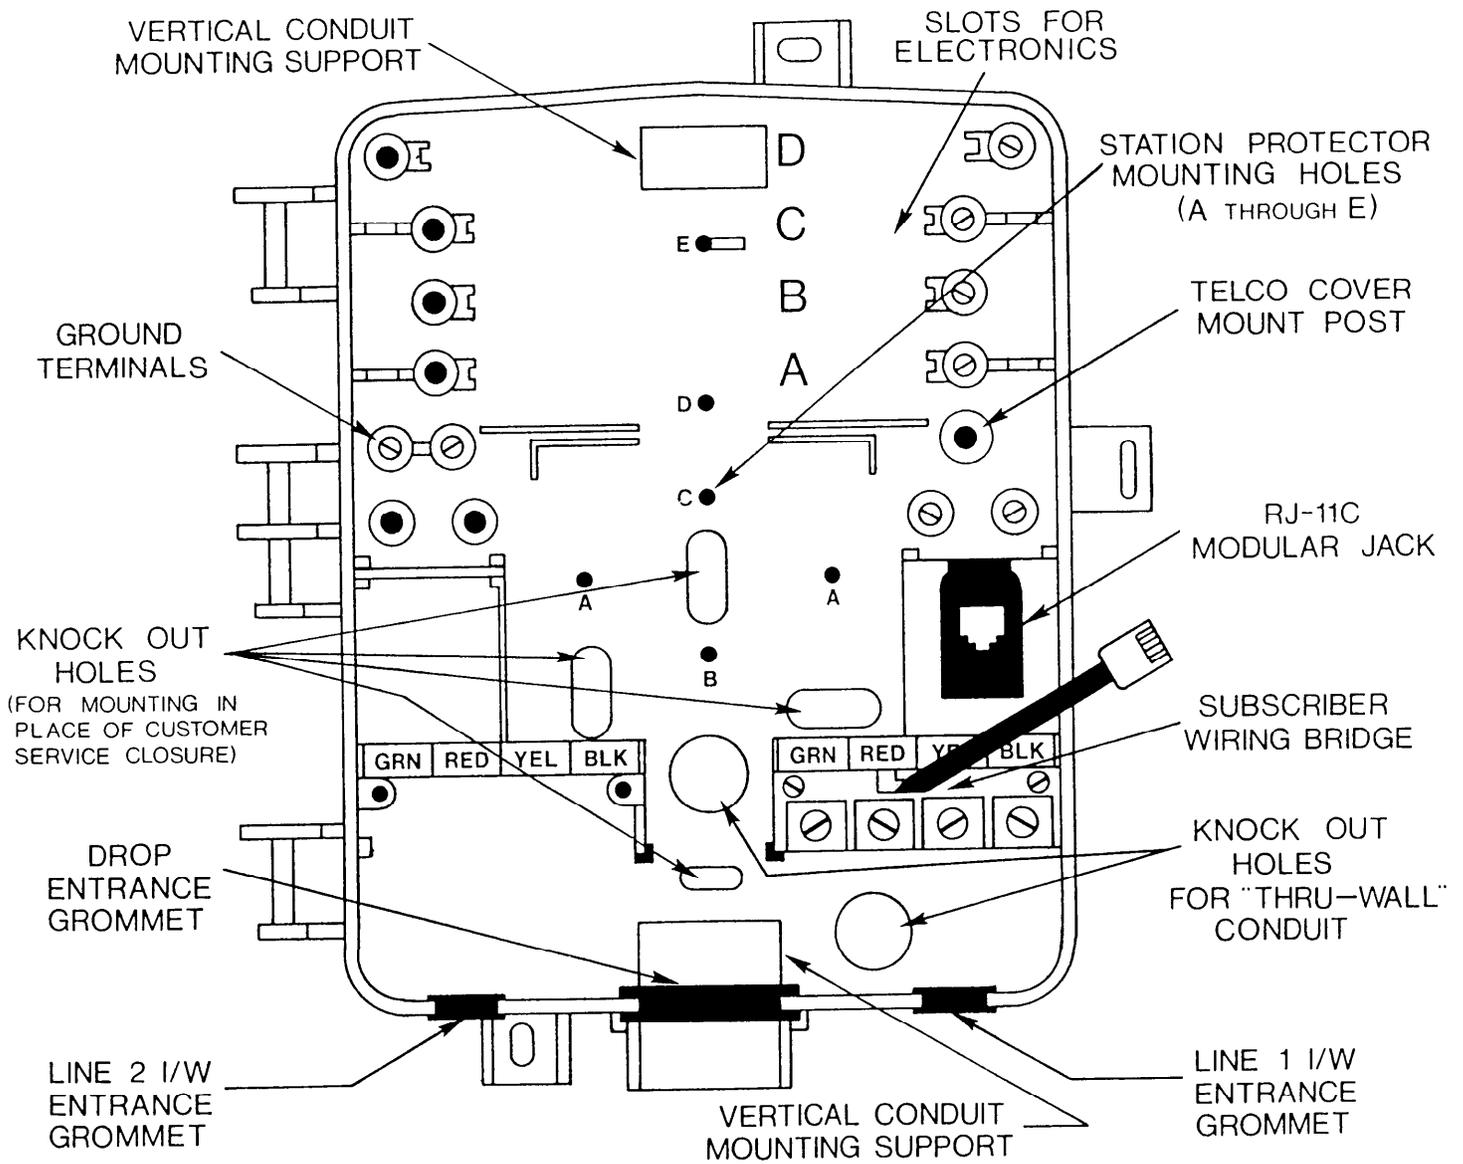

Fig. 1—SNI-2100 Details and Features
2.02 The Closure is designed to contain the Station Protector, Network Interface (RJ11), Subscriber Wiring Bridge (inside wire termination) and slots for electronics. Refer to Figure 1.